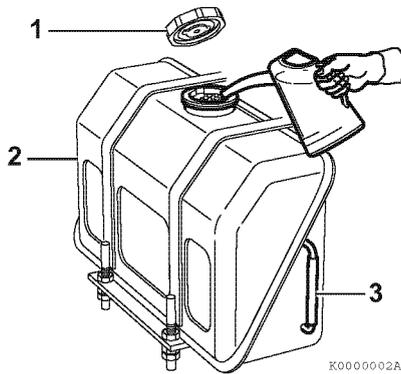

Figure 4-22
1. Clean the area around the fuel cap (1, **Figure 4-22**).
2. Remove the fuel cap from the fuel tank (2, **Figure 4-22**).
3. Observe the fuel level sight gauge (3, **Figure 4-22**) and stop filling when gauge shows fuel tank is full. Never overfill the fuel tank.
4. Replace the fuel cap (1, **Figure 4-22**), hand tighten. Over tightening the fuel cap will damage it.